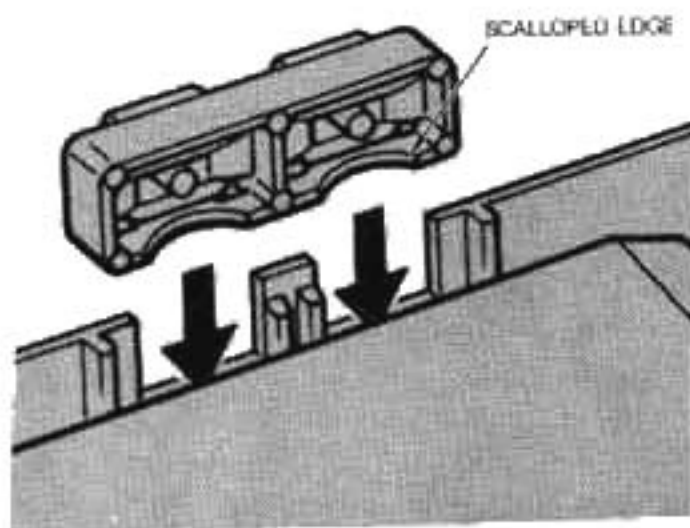

Figure 4-8
6) Press action buttons firmly in position. The scalloped edge should be on the BOTTOM, FACING INWARD. The buttons will only fit one way. Refer to Figure 4-8 below.